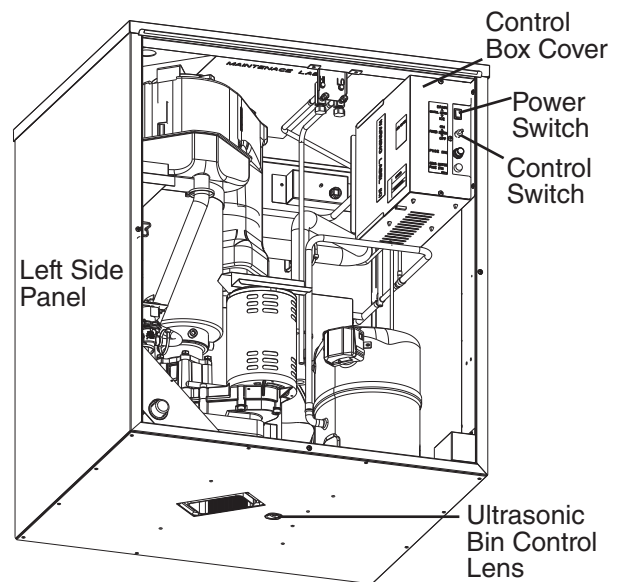
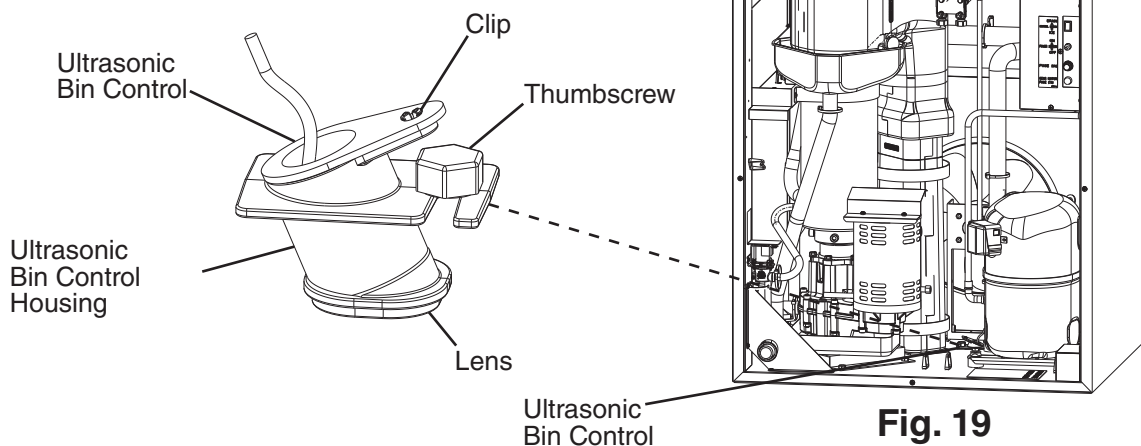

Fig. 18
Fig. 19
- 8) "GM" LED and "COMP" LED are on. Place an object 5" to 7" (127 to 178 mm) away from the bin control lens at the bottom of the icemaker. See Fig. 18. If the bottom of the icemaker is not accessible in your application, remove the thumbscrew securing the bin control sensor housing to the base, then remove the bin control sensor housing. See Fig. 19.